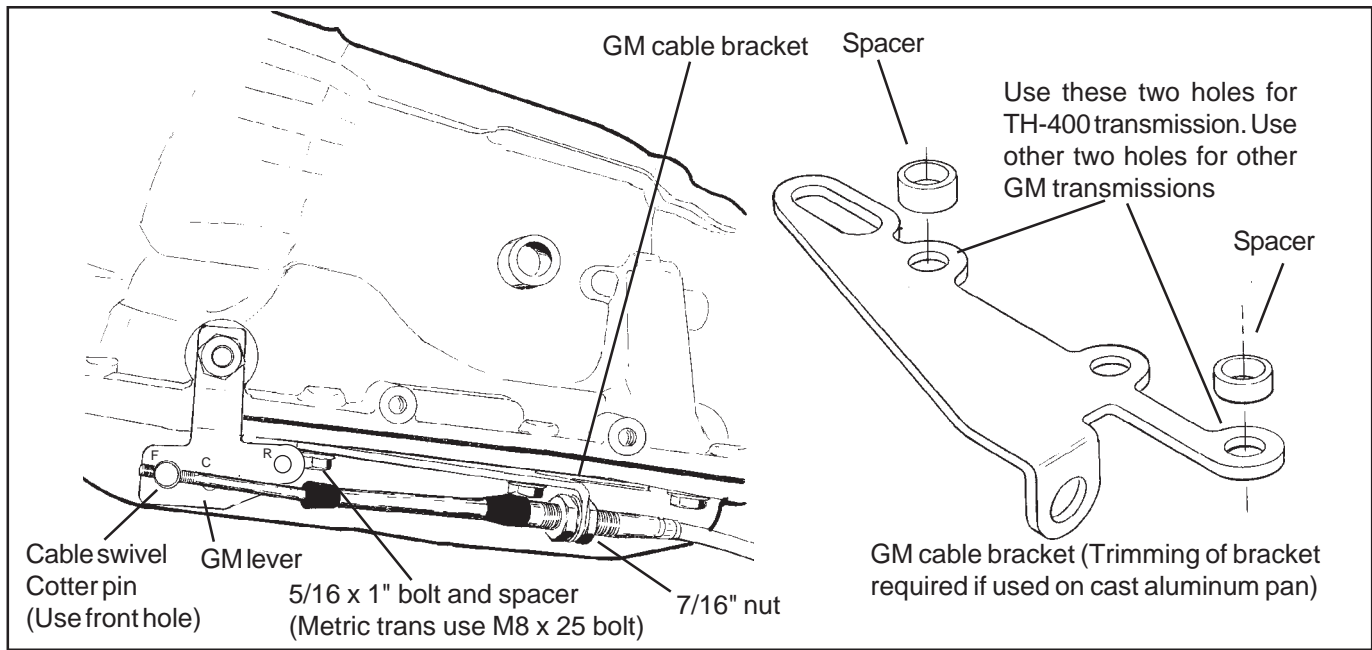

Figure 3
**STEP 8.** If you have not already done so, remove the stock selector lever nut and the selector lever. Discard the stock lever and the stock shifter linkage. Install the **B&M** selector lever in position. Install the stock selector lever nut and tighten securely (**See Figure 3**). The lever must be installed so it can travel its full arc equally in both directions across the center. If the lever is
**STEP 9.** Remove the two transmission oil pan bolts from the middle of the left side of the oil pan. Install the cable bracket in position (See Figure 3). The bracket must be installed with two spacers between the pan and the bracket. (If your transmission is equipped with a cast aluminum oil pan, these spacers should be omitted however the cable bracket may have to be modified.) Install the two 5/16" x 3/4" bolts supplied and tighten to 12-13 lb-ft. If your transmission has metric bolts install the two 8mm bolts. Do not overtighten as this can damage the pan gasket.